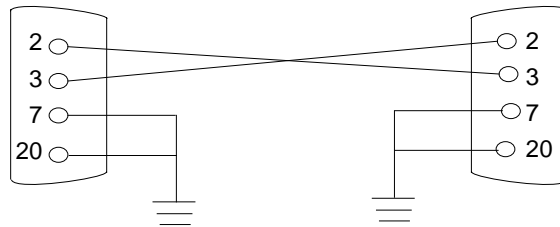

FIGURE 3-1 Setting Up a tip Connection
1. See FIGURE 3-1. Connect serial port A of the system being tested to serial port B of another Sun workstation using a serial null modem cable (connect cable pins 2-3, 3-2, 7-20, and 20-7).